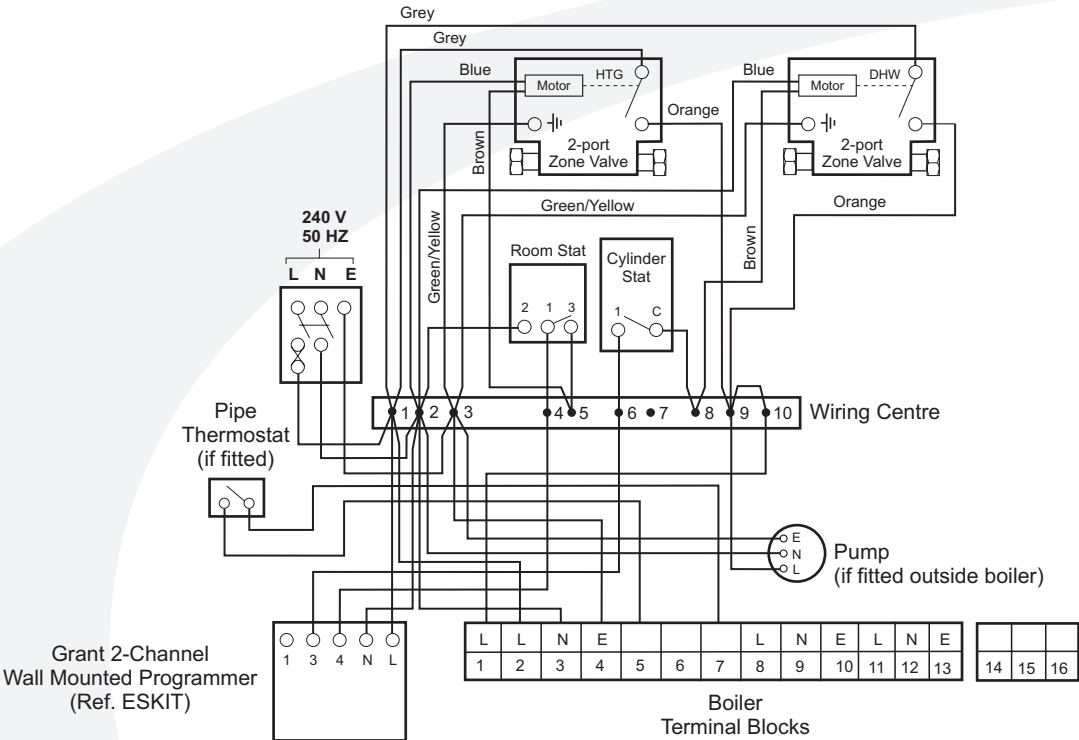

Figure 8-1: Grant 2 channel wall mounted programmer (Ref. ESKIT) - CH and HW controlled by two 2-port zone valves
Refer to Figures 8-1 to 8-4 for typical control system wiring diagrams.
It is recommended that the boiler should be connected to a switched mains power supply from a programmer or control system. If a Grant remote programmer is used, a permanent 240 V mains supply (fused at 5 Amp) must be taken to the boiler. A three core cable is required to connect the boiler terminal block to the live supply. Refer to Figures 8-1 to 8-4 for typical control system wiring diagrams.
3. Refer to Figures 8-1 to 8-4 for a typical control system wiring diagrams.